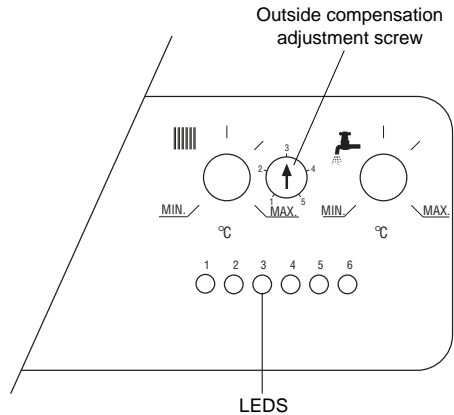

Fig. 19d
7.4.5 Remove the plastic cover of the outside compensation adjustment screw on the boiler facia panel (fig. 19d)